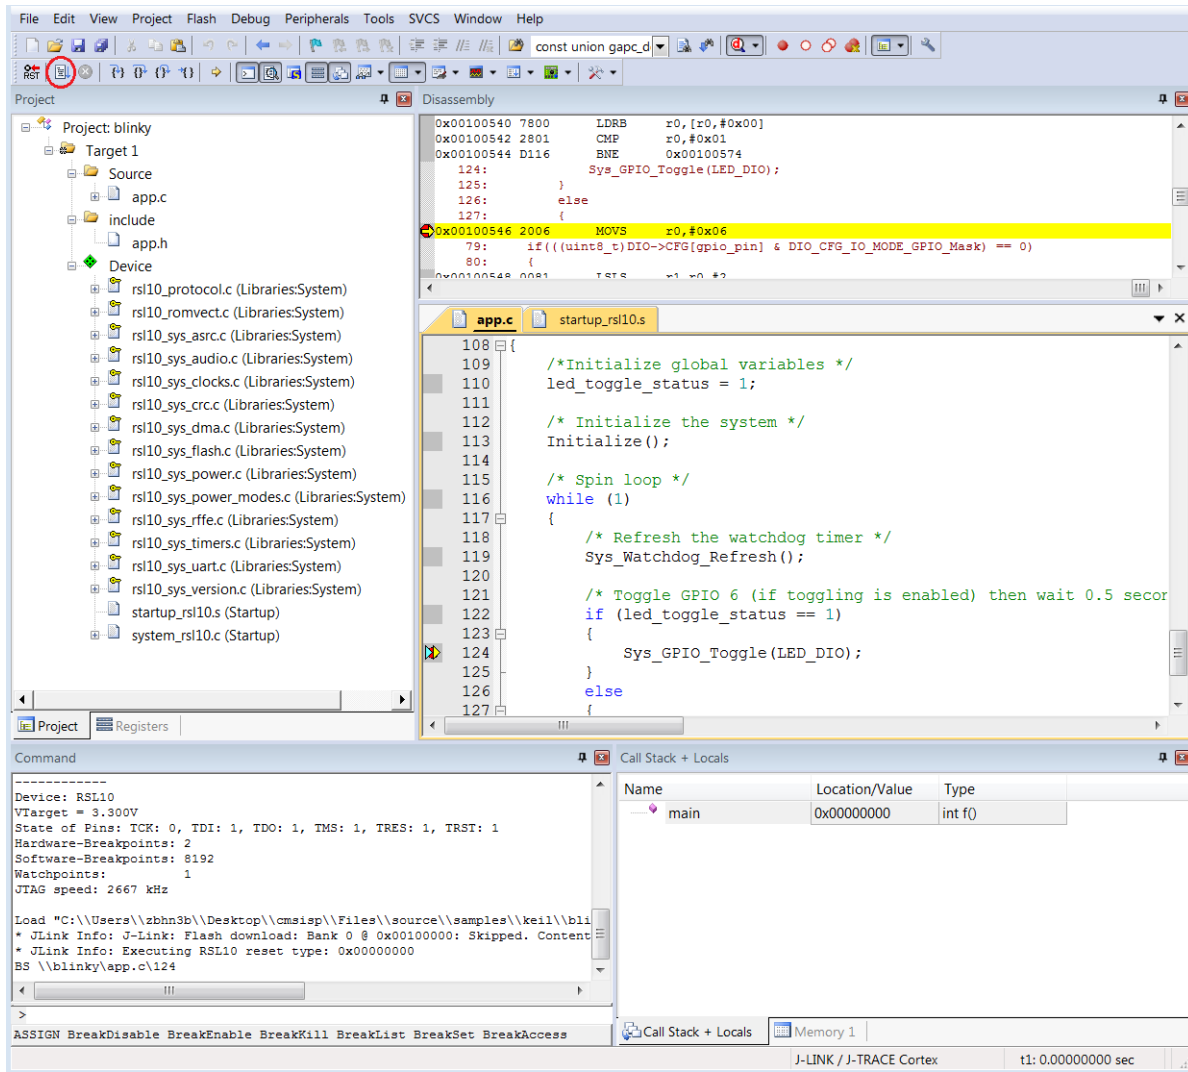

Figure 25. Debug Session in the Keil μ Vision IDE
3. The application runs up to the first breakpoint in *main*, as shown in Figure 25. You can press F11 multiple times to step through the code and observe that the LED changes its state when the application executes the function *Sys_GPIO_Toggle (LED_DIO)*.